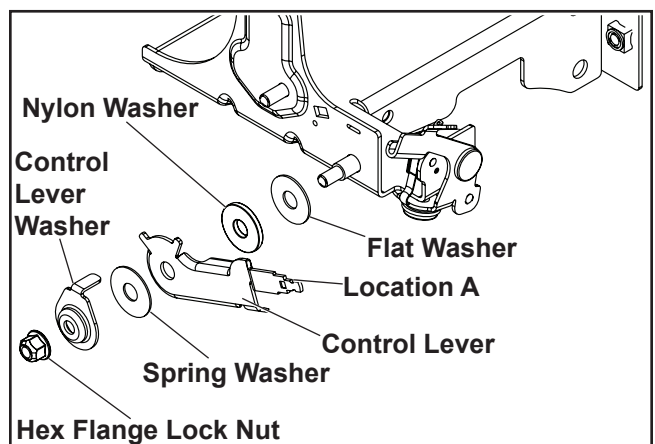

Figure 22. Engine Control Lever.
- Assemble the control lever assembly as follows: flat washer, nylon washer, control lever, spring washer, control lever washer, with the locking hex flange nut torqued such that it requires $6 \pm 1 \text{ lb. (2.72} \pm 0.45 \text{ kg)}$ to move the control lever at location A. See Figure 22.